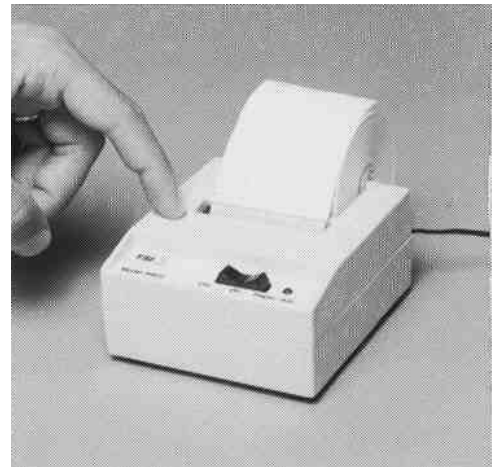

Figure VIII-11. Locking down the printer cover
Step 9. Press down the front of the printer cover to lock it in place (fig. VIII-11).